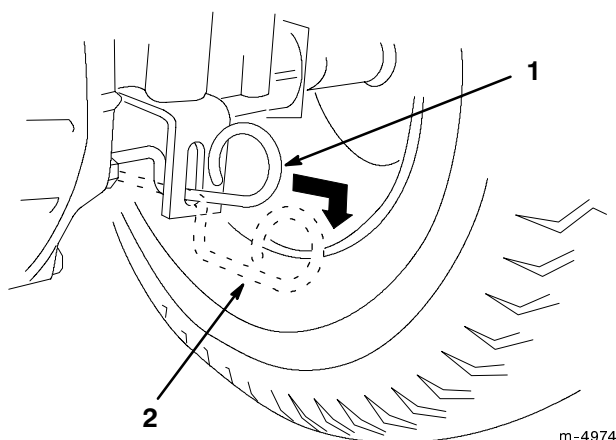

Figure 12
- Pull the drive control out to the Push position. This disengages the drive system and allows the wheels to turn freely (Fig. 12).
- Push the drive control in to the Operate position. This engages the drive system (Fig. 12).